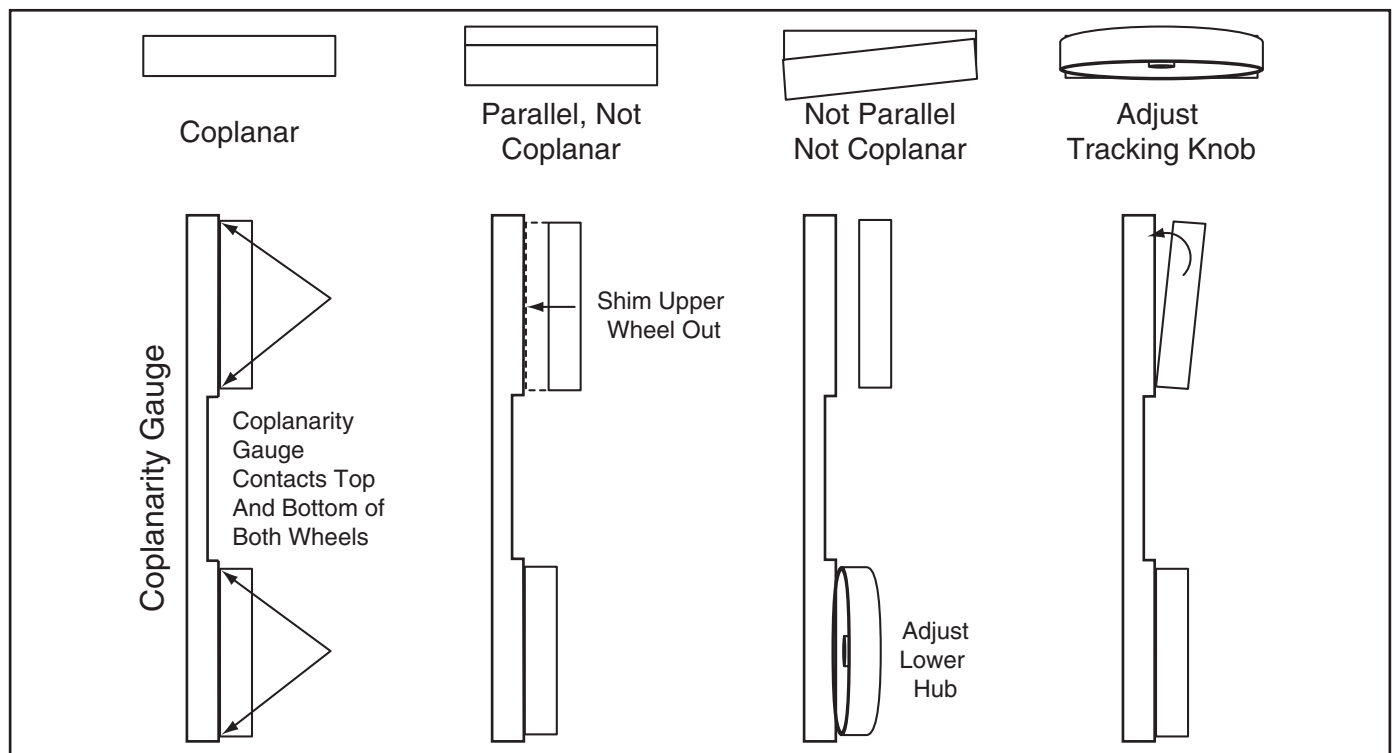

Figure 62. Coplanarity diagram.
8. **Figure 62** shows the positions of the wheels when coplanar. When your wheels are coplanar, re-adjust the guide blocks and rear support bearings, and replace the wheel covers.